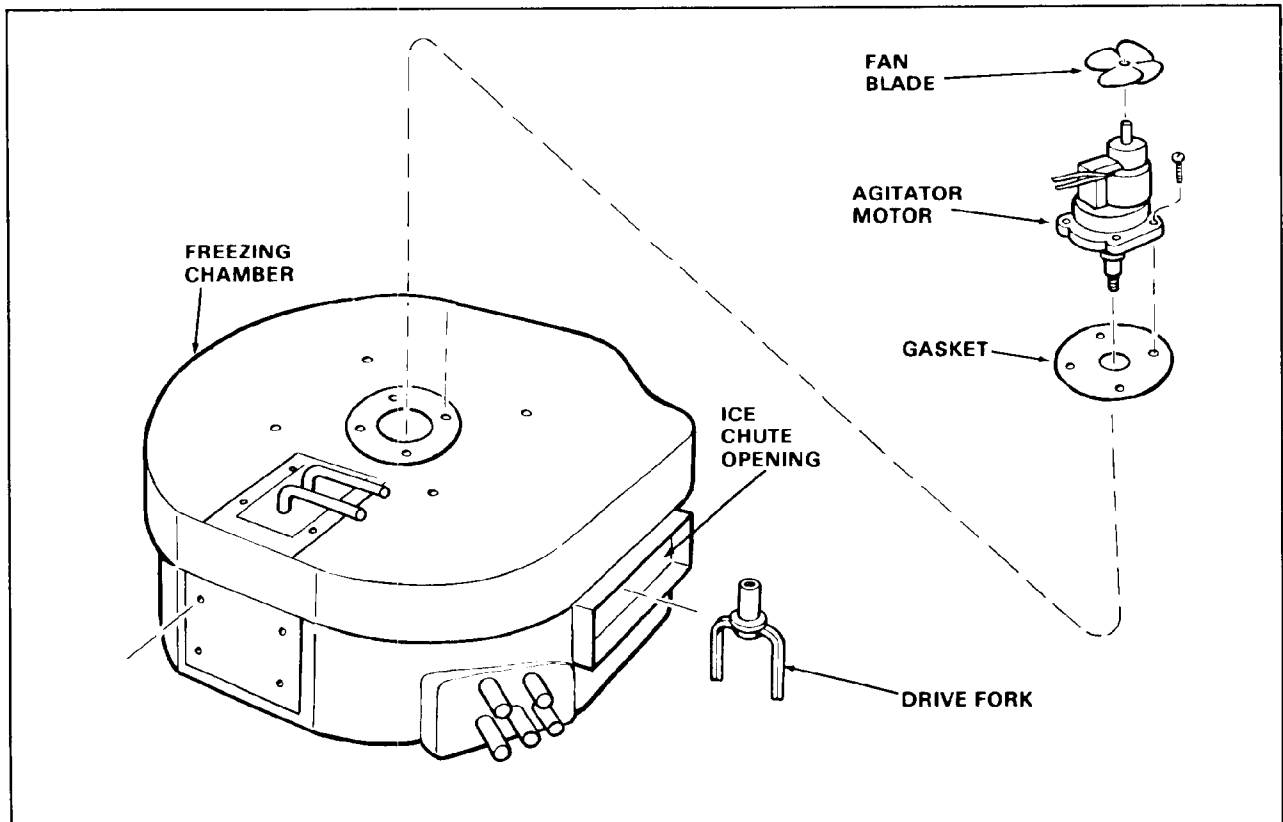

Figure 4-3. Removal of the Agitator Motor Assembly.
7. Reach through the same ice chute opening, as before, and grasp the top Drive Fork with one hand, and the Agitator Motor Fan, on top of the Freezing Chamber, with the other hand. See Figure 4-3.